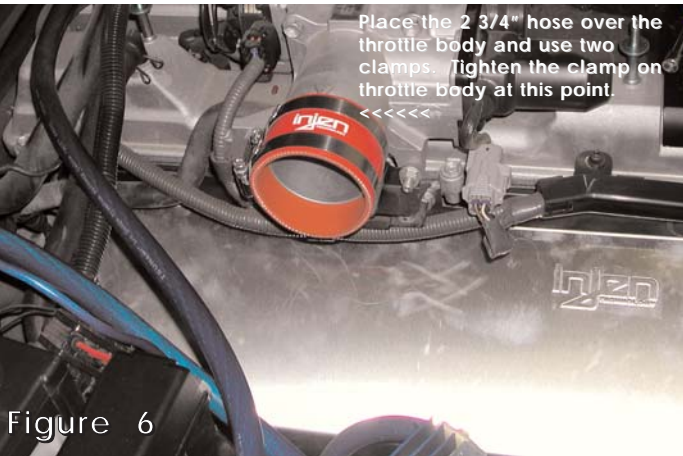

Figure 6
- 5- Take the 2 3/4" straight hose and place it over the throttle body. Use two clamps and tighten the clamp on the throttle body at this point. (See fig. 6)